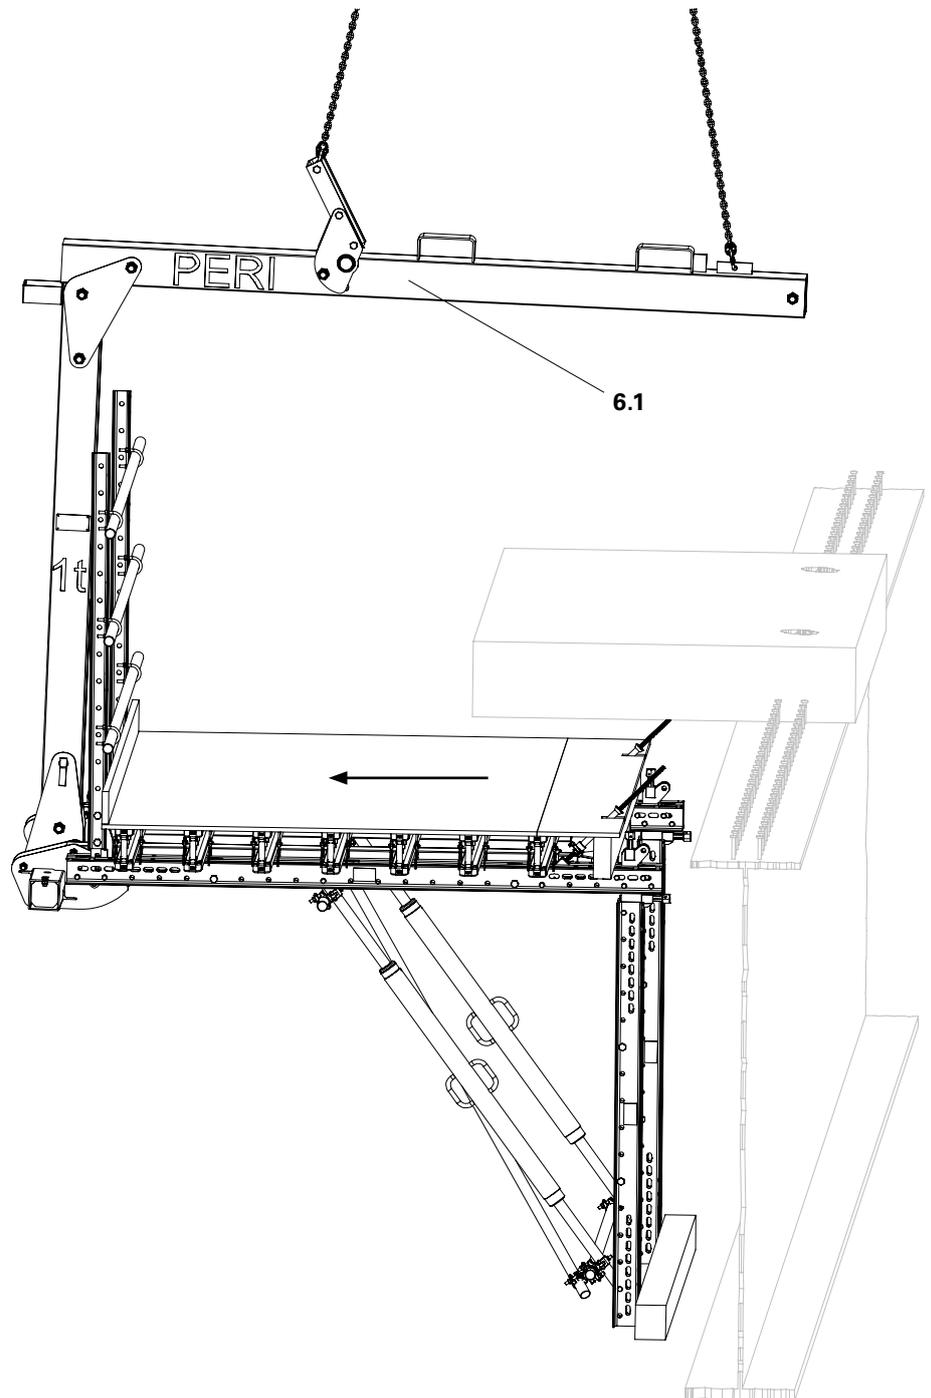

Fig. D3.04
1. Remove the cantilever bracket from the building using the Table Lifting Fork 1 t / 5.0 m (6.1). (Fig. D3.04)